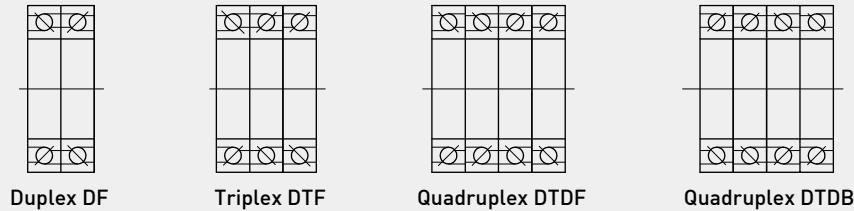

Fig 4.4 Different arrangement of ballscrew support bearings
- (5) Select a suitable support bearing arrangement for the screw spindle. Angular contact ball bearings (angle=60°) are recommended for CNC machinery. Because of higher axial load capacity and ability to provide a clearance-free or preloaded assembly (Fig. 4.4).